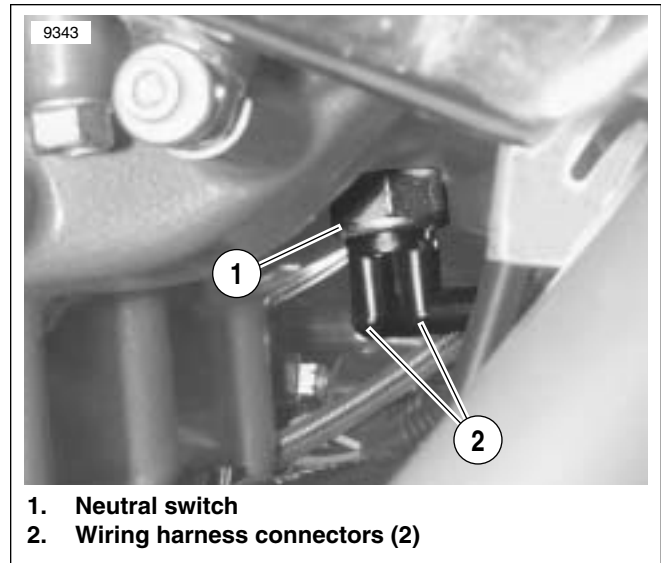

Figure 8-63. Neutral Switch Location (typical)
4. See Figure 8-63. Remove two wiring harness connectors (2) from neutral switch (1). Gently pull connectors straight off switch studs.
3. See Figure 8-63. Install wiring harness connectors (2) onto studs on neutral switch (1). Gently push connectors until they bottom out on studs.